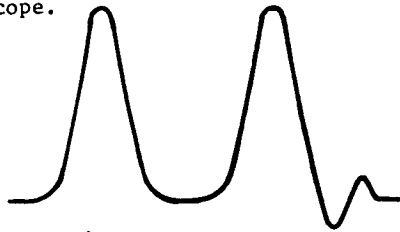
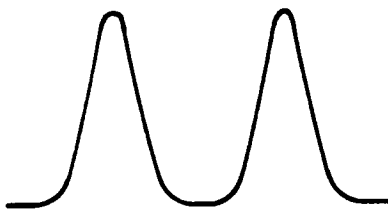

Figure 6-9d
Figure 6-9e
3. Connect the oscilloscope vertical input to the centre-tapping of the potentiometer R1470 and set the oscilloscope controls to observe the waveform shown in Figure 6-9d. Adjust R1417 to eliminate reflections and obtain the waveshape shown in Figure 6-9e. Disconnect the oscilloscope.